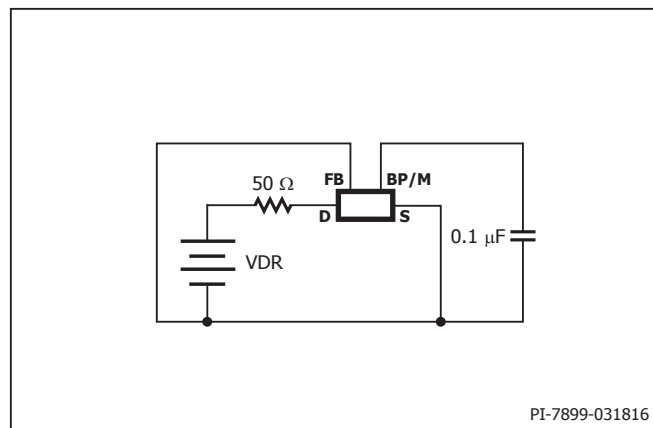

Figure 13. LinkSwitch-TN2 Minimum On-Time Measurement.
- I. Measured using circuit in Figure 13 with 50  $\Omega$  drain pull-up. The width of the drain pulse is measured as the time from  $V_{FALL} = 42$  V to  $V_{RISE} = 40$  V (VDR = 50 V), for LNK3206/05/04 and as the time from  $V_{FALL} = 32$  V to  $V_{RISE} = 30$  V on rising edge (VDR = 35 V), for LNK3202.